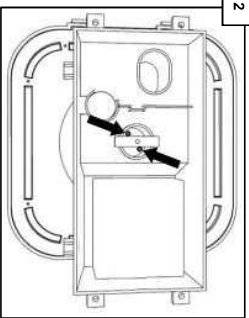

Fig. 2
3. Remove two screws (Fig. 2) that hold lamp socket in place. The center wing-nut may need to be removed or loosened to gain access to these screws. After removing the socket screws, replace and tighten wing-nut if it is removed.